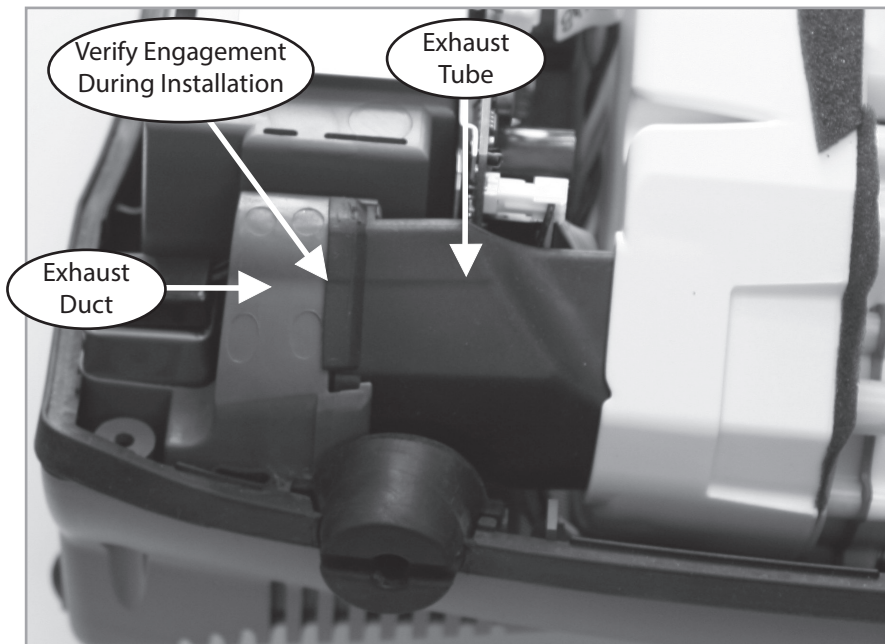

Figure 73: Exhaust Tube Removal.
4. Remove the Exhaust Tube as shown in Figure 73.
12. Hold onto the Compressor Box and lift the Bottom Case into a standing position. Insert the Exhaust Tube into the slot of the Exhaust Duct as shown on Figure 73 on page 90. Ensure that it is secure without any gaps.